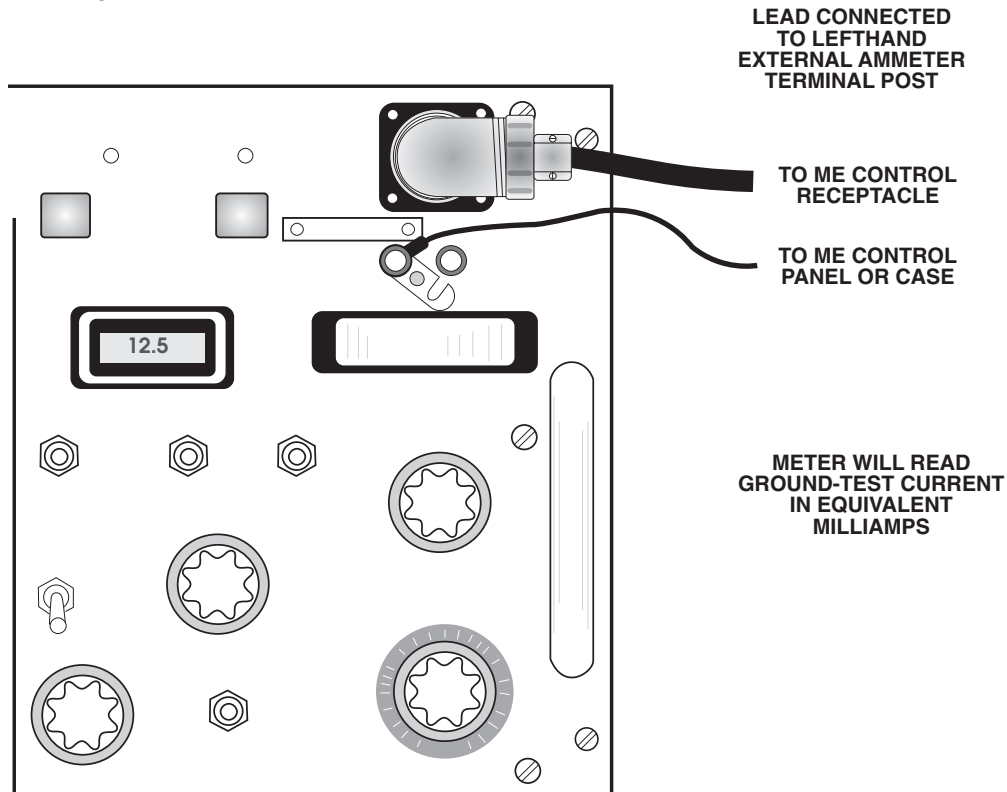

Figure 6. Test hookup for form 2 controls below serial number 1615
- Connect the battery plug into the other (female) plug of the test cable (Figure 6).